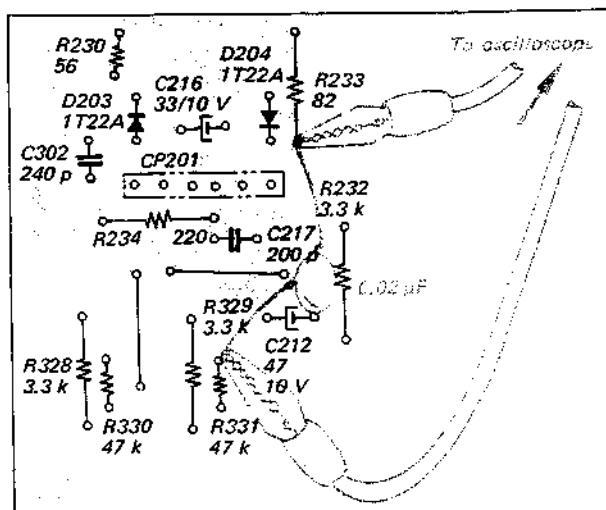

Fig. 3-3. Fm discriminator output connection
1. Connect the input cable of the oscilloscope with alligator clips to R233 and ground on the fm (a-m) front-end/i-f amp/MPX board, and solder a  $0.02\mu\text{F}$  capacitor across these clips as shown in Fig. 3-3.